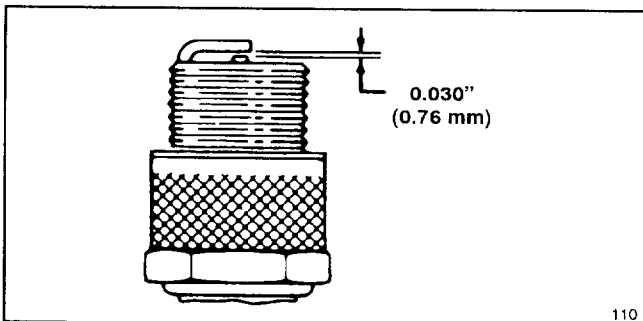

Figure 13
3. Set air gap at 0.030" (0.76 mm) (Fig. 13). Install correctly gapped spark plug and gasket seal. Tighten plug firmly to 14 ft-lb (19 N·m).